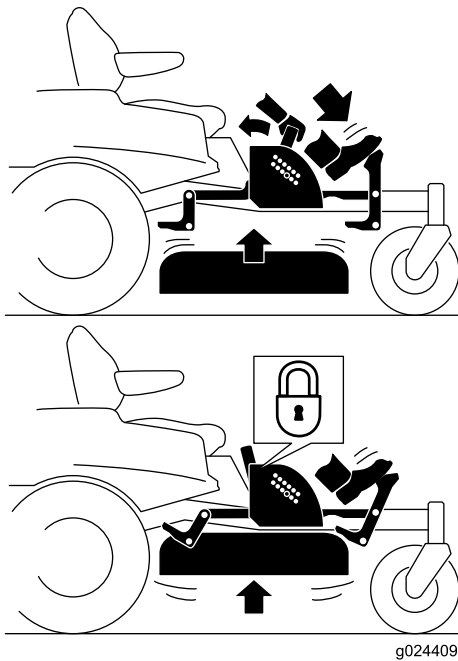

Figure 21
- Press the pedal down to raise the deck; continue to press the pedal until the deck is locked in the transport position (Figure 21).
- Push on the deck lift pedal with your foot and pull the transport lock handle rearward to disengage the transport lock (Figure 21).
4. Push on the deck lift pedal with your foot and pull the handle rearward to disengage the transport lock (Figure 21).